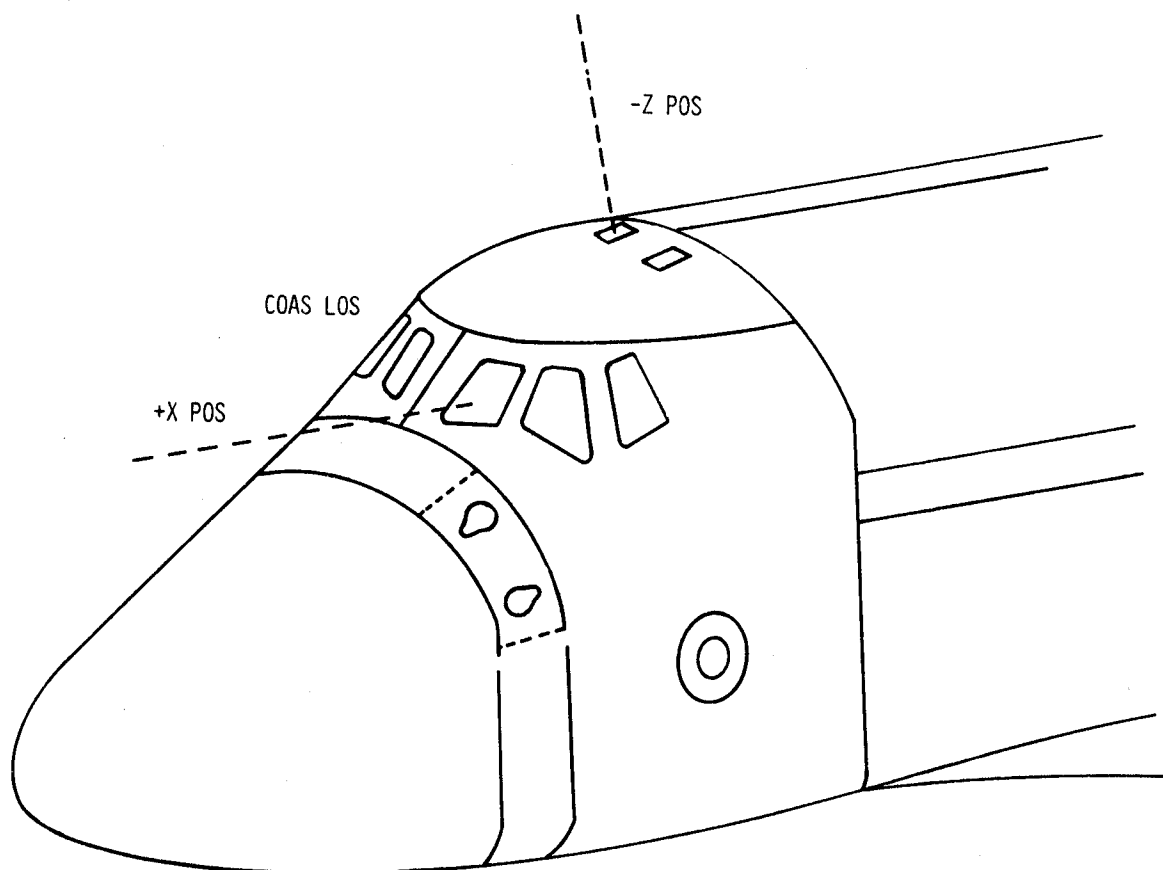
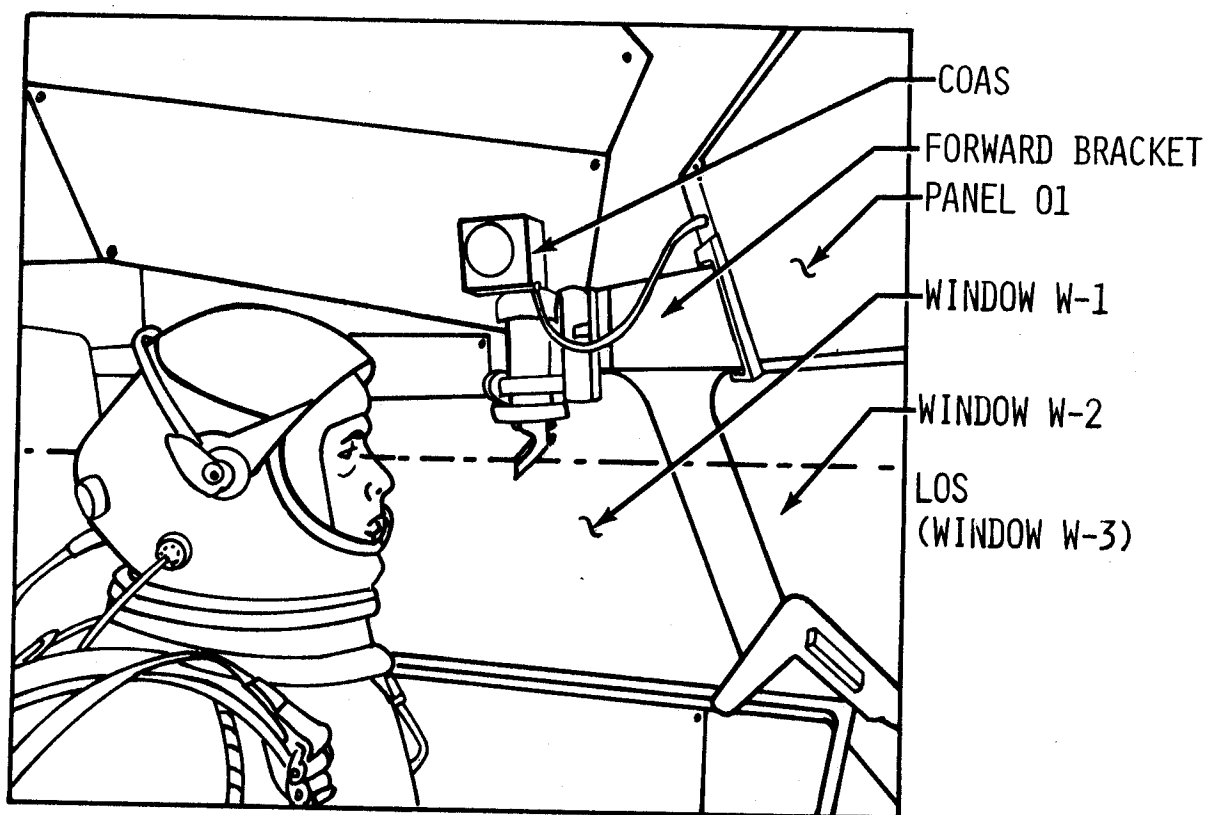

Figure 7-4. COAS Viewing Directions
Figure 7-5. Using COAS in Forward Position
The COAS has two mounting positions: one above the CDR +X (forward) window (W3) and one in front of the starboard overhead window (W7) above the aft flight station. See figure 7-4 for COAS viewing directions. The +X mount is bore-sighted parallel to the +X axis and the -Z mount parallel to the -Z axis of the Shuttle. Figures 7-5 and 7-7 illustrate the COAS mounted in the forward and aft position.
7.2.1 Forward Mounting. When taking sightings along the +X axis (see figure 7-5 and 7-6), the COAS is mounted on Panel 01 and sighted through window W-3. With the COAS mounted on Panel 01, power to illuminate the reticle is provided from the COAS POWER switch on Panel 01. Reticle brightness is controlled by the intensity control on the COAS. A mounting bracket is attached to the COAS prior to mounting it in this position. This bracket is required to lower the unit so that the view through the forward window is unobstructed.